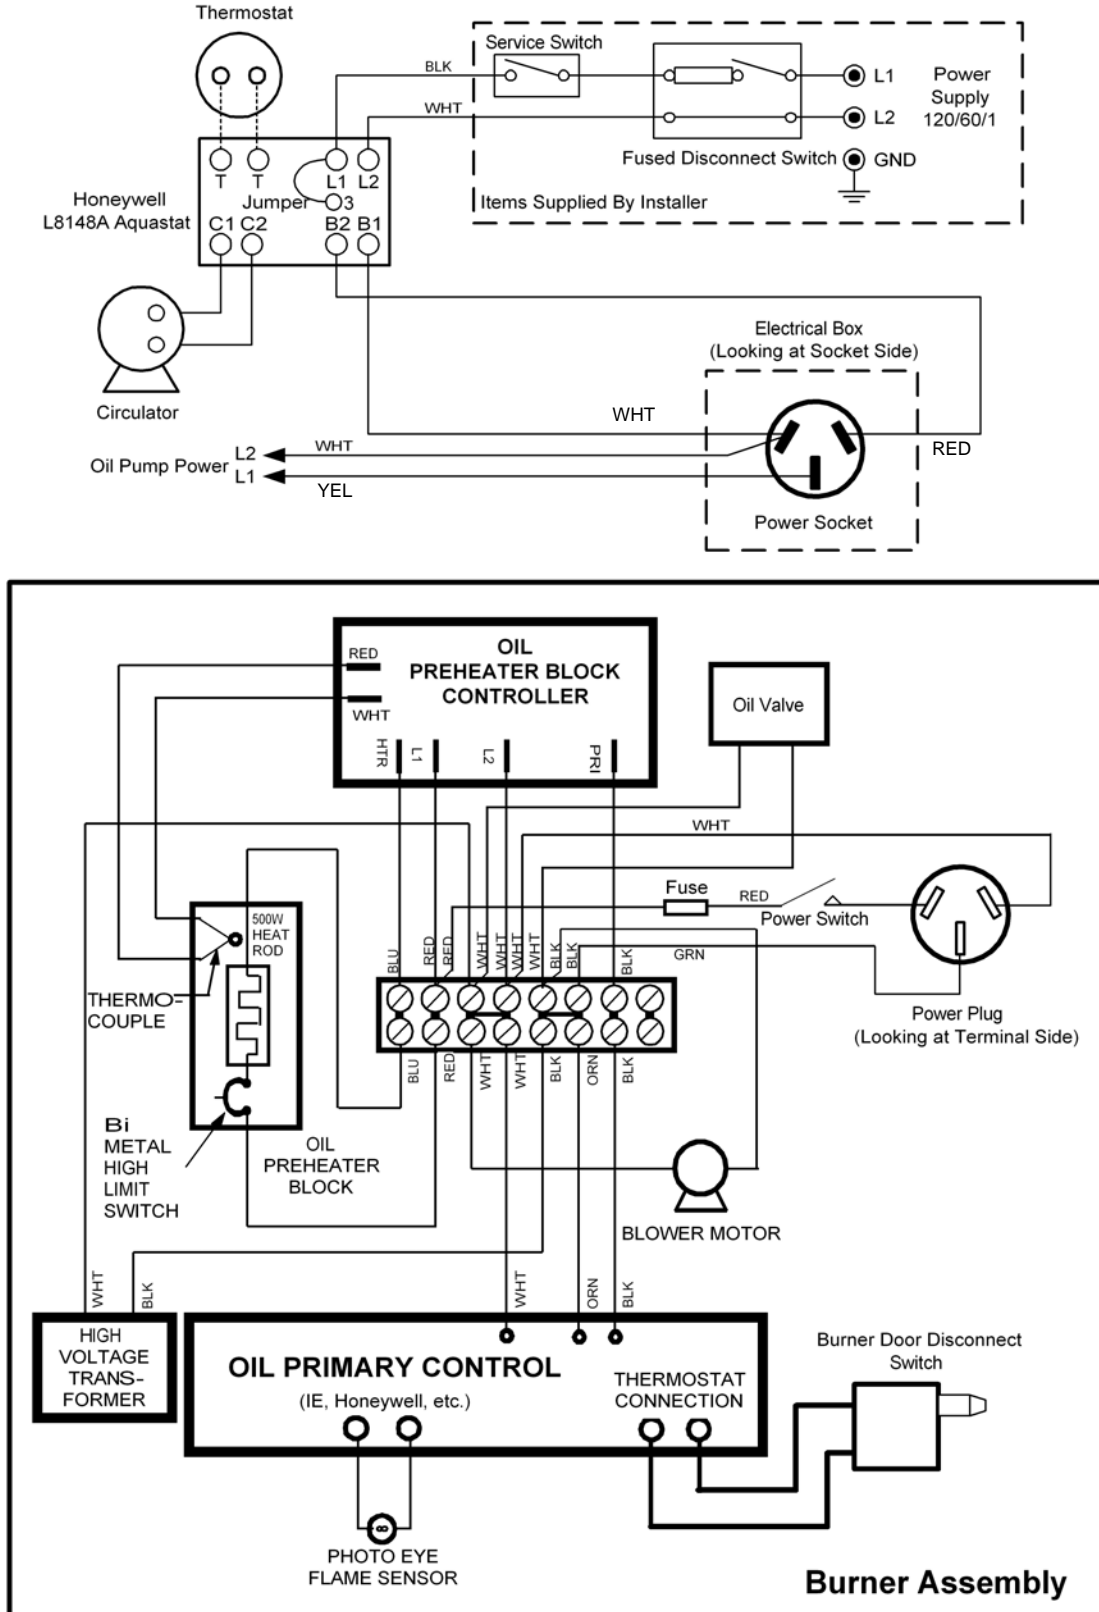

Figure 34. WIRING DIAGRAM, SINGLE HEATING ZONE ONLY (BOILERS EQUIPPED WITH BURNER DOOR DISCONNECT SWITCH)
- 2) Multiple Zones using Zone Valves—Figure 34 shows wiring for multiple zones using Honeywell V8043F zone valves. This wiring diagram may be used for other 24-volt zone valves as long as they are equipped with end switches. Do not attempt to use the transformer on the L8148A to power the zone valves; use a separate transformer. Up to five V8043Fs may be powered by one 48VA transformer, such as the Honeywell AT87A. A call for heat from a given thermostat will result in the application of 24 volts across the TH and TR terminals on the corresponding zone valve, energizing the zone valve motor. The zone valve opens and the end switch contacts are then made. The end switches are connected in parallel with each other and to the “T” and “T”